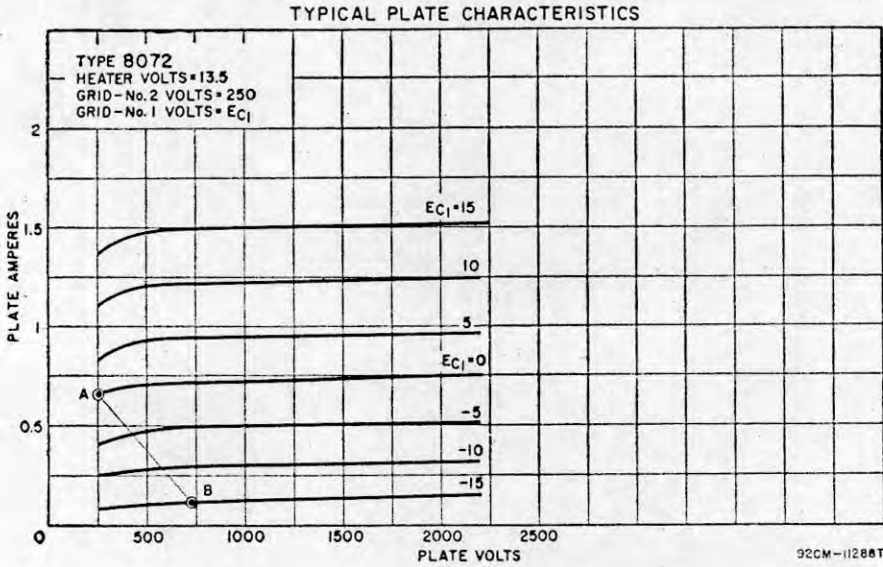
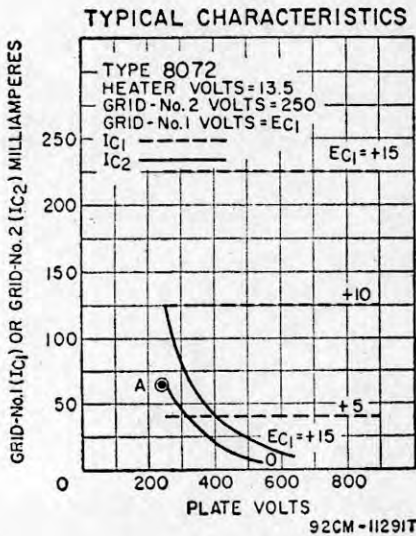

Fig. 46
Fig. 47
The operating conditions for a class AB₁ linear rf amplifier used in single-sideband service can be estimated from the load line plotted on a set of plate characteristics. The typical plate and grid-No.2 characteristic curves shown in Figs. 46 and 47 are used in the following
(3) Select a value of zero-signal plate current (I_{b0}) between 1/6 and 1/10 of I_{bmax} found in (2). Locate I_{b0} at selected E_b and construct a load line to the point found in (2). In general, the
(5) Determine the grid-No.1 bias (E_{c1}) from graph at the point of zero signal found in (3).
(6) DC plate current at peak of envelope (I_{be}) is approximately equal to $I_{bmax}/3$.
(7) Average dc plate current (I_b) is equal to $I_{be}/1.4$.
(8) Determine peak grid-No.2 current (I_{c2max}) from Fig. 47 at conditions in (2).
(9) DC grid-No.2 current at peak of envelope (I_{c2e}) is approximately equal to $I_{c2max}/4$.
(10) Average grid-No.2 current (I_{c2}) is approximately equal to $I_{c2e}/1.4$.
(11) Average grid-No.2 dissipation (P_{c2}) is approximately equal to $E_{c2} \times I_{c2}$.
(12) Peak Envelope Power input (P_{1ne}) is equal to $E_b \times I_{be}$.
(13) Peak Envelope Power output (PEP) is equal to $(I_{bmax}/4)(E_b - E_{bmin})$.
(14) Average Plate Dissipation (P_D) is equal to $0.7 P_{1ne} - 0.5 PEP$.
(15) Average Power Output (P_o) is equal to $PEP/2$.
(16) Effective rf load resistance (R_p) is equal to $2(E_b - E_{bmin})/I_{b0}$.
(1) The plate voltage is selected to be 700 volts; grid-No.2 voltage, 250 volts.
(2) On Fig. 46 plot the maximum-signal point at knee of $E_{c1} = 0$ curve (point A). Read $I_{b_{max}} = 0.65$ ampere. Locate $E_{b_{min}}$ at 250 volts.
(4) On Fig. 46 plot the minimum-signal point at $E_b = 700$ volts and $I_{b_0} = 0.10$ ampere (point B).
(5) On Fig. 46 read E_{c1} at -15 volts at minimum-signal point B.
(6) Calculate: $I_{b_e} = I_{b_{max}}/3 = 0.650/3 = 0.22$ ampere.
(7) Calculate: $I_b = I_{b_e}/1.4 = 0.22/1.4 = 0.16$ ampere.
(8) On Fig. 47 locate point A at $E_b = 250$ volts and $E_{c1} > 0$ on grid-No.2 current curves. Read $I_{c_{2max}} = 0.065$ ampere.
(9) Calculate: $I_{c_{2e}} = I_{c_{2max}}/4 = 0.065/4 = 0.016$ ampere.
(10) Calculate: $I_{c_2} = I_{c_{2e}}/1.4 = 0.016/1.4 = 0.011$ ampere.
(11) Calculate: $P_{c_2} = E_{c_2} \times I_{c_2} = 250 \times 0.011 = 2.7$ watts. Verify that grid-No.2 dissipation is within rating.
(12) Calculate: $P_{lne} = E_b I_{b_e} = 700 \times 0.22 = 154$ watts.
(13) Calculate: $PEP = (I_{b_{max}}/4)(E_b - E_{b_{min}}) = (0.650/4)(700 - 250) = 73$ watts.
(14) Calculate: $P_D = 0.7 P_{lne} - 0.5 PEP = 0.7(154) - 0.5(73) = 71$ watts.
(15) Calculate: $P_o = PEP/2 = 73/2 = 36.5$ watts.
(16) Calculate: $R_p = 2(E_b - E_{b_{min}})/I_{b_{max}} = 2(700-250)/0.65 = 1384$ ohms.